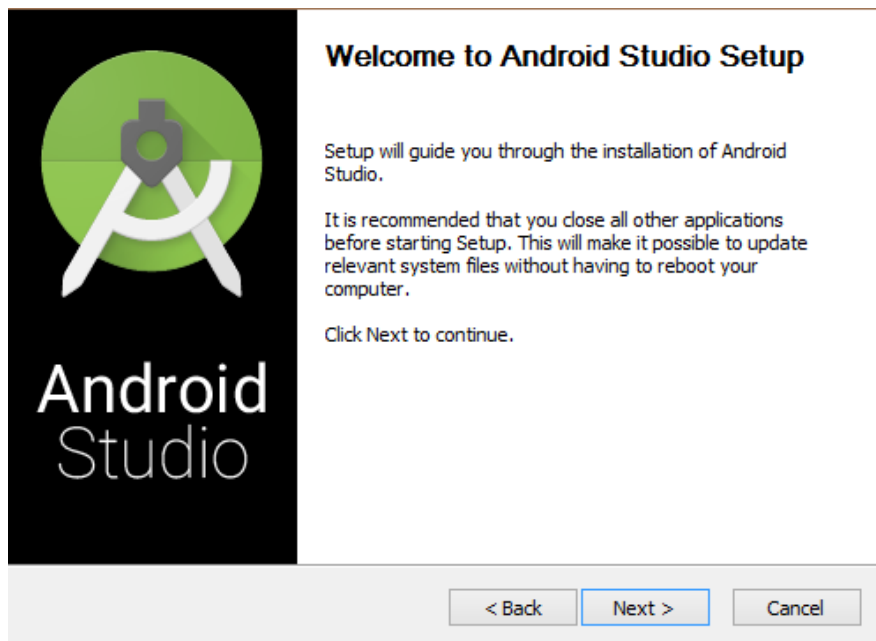

Figure 43, Android Studio Installation Wizard Welcome Screen.
- d. For "Choose Components", check all boxes (Figure 43). Click Next.